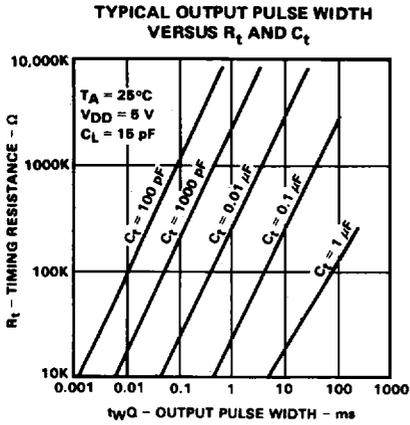
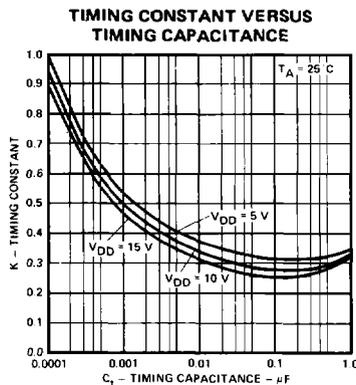

FIGURE 1.
Fig. 3.
3. Polarized capacitors may be used directly. The (+) terminal of a polarized capacitor is connected to pin 2 (14) and the (-) terminal to pin 1 (15). Pin 2 (14) will remain positive with respect to pin 1 (15).
4. The output pulse width can be determined from the pulse width versus  $C_t$  or  $R_t$  graphs (Figures 1 and 2).
The first step is to choose a capacitor. Figure 1 shows pulse width versus resistor value with the capacitor value as the running parameter. A capacitor value is chosen so that the approximate resistor value is between  $20\text{ k}\Omega$  and  $2\text{ M}\Omega$ . Once the capacitor is determined, the timing constant (K) is found from Figure 3 for a specific  $V_{DD}$ . The resistor value is then determined from Equation 2. If the resistor value is less than  $20\text{ k}\Omega$  the timing constant should be increased by 20% and the resistor value re-calculated. The resistor must be larger than  $5\text{ k}\Omega$ .
From Figure 1 a capacitor value between 0.01 and .1  $\mu\text{F}$  would be reasonable. A  $0.022\ \mu\text{F}$  capacitor is the only capacitor that is available.
The timing constant for a  $0.022\ \mu\text{F}$  at  $10\text{ V } V_{DD}$  is found from Figure 3 to be approximately 0.3.